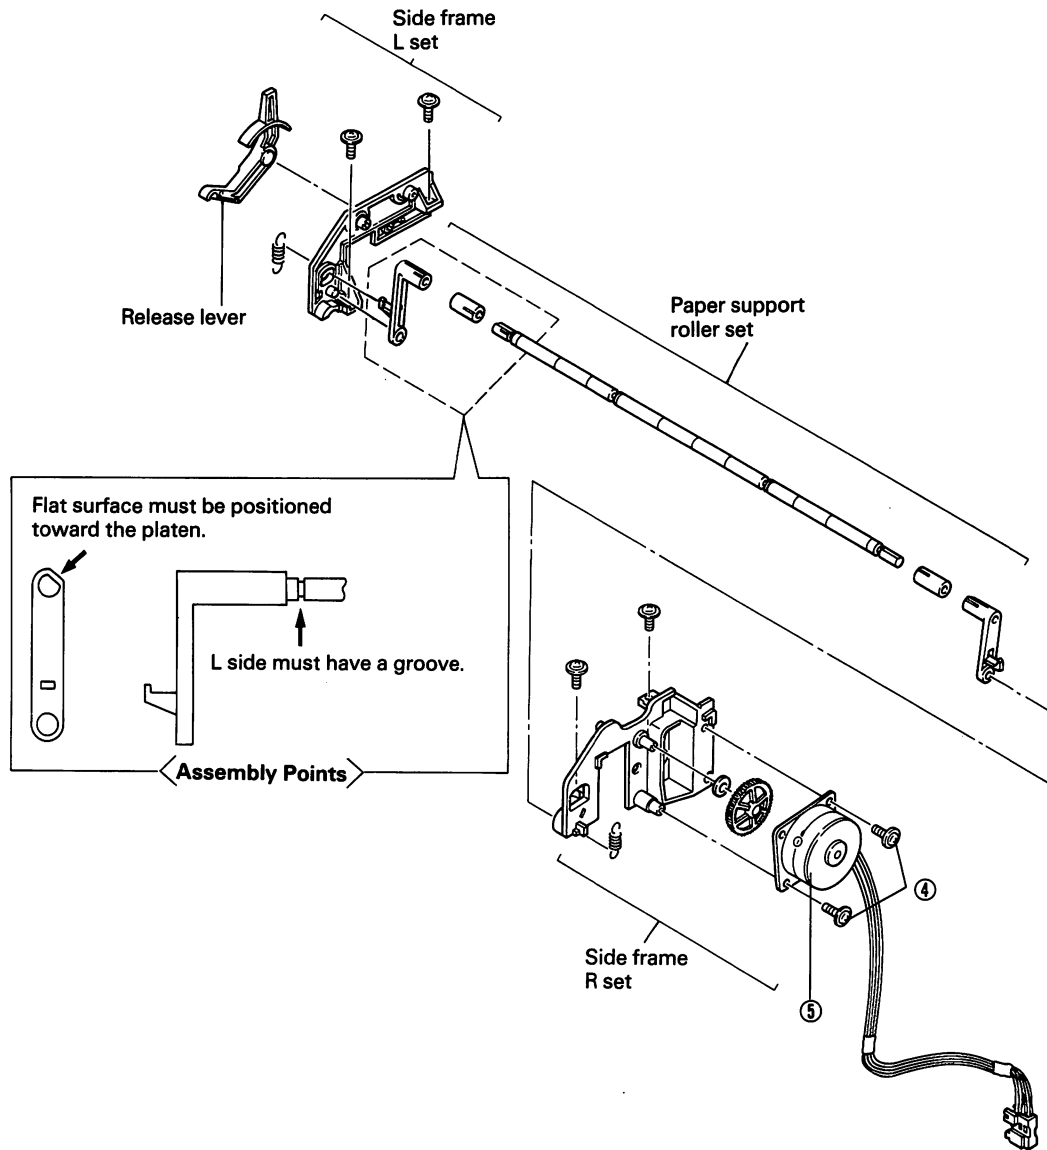

Fig. 4-11. Side Frame and Paper Support Roller Disassembly
2. Loosen the four fixing screws ① securing the left ② and right ③ side frames.
5. Remove screws ④, which secure the paper feed motor ⑤, and carefully remove the motor. (Refer to Fig. 4-11)
6. To disassemble the side frames/support roller, refer to Fig. 4-11.